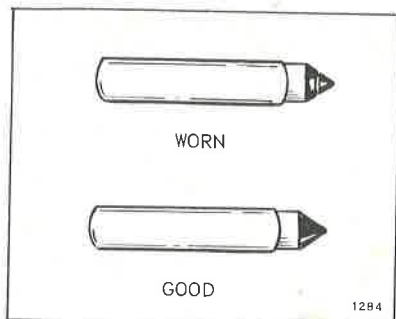

Figure 3-10. Inlet Needle Valve Wear
b. Inspect the inlet needle valve for grooves, nicks, or scratches. If any are found, replace float valve assembly. See Figure 3-10. Gum or varnish on the needle valve must be removed with OMC Accessory Engine Cleaner. DO NOT attempt to alter the shape of the needle valve.